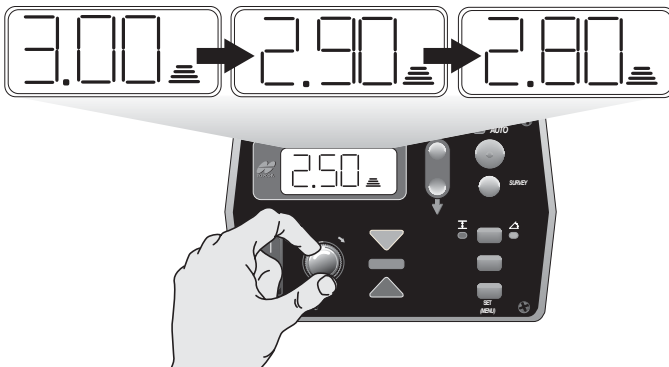

Figure 5-11. Slowly Adjusting Grade
4. With the paver moving and in auto, slowly dial the display from 3 inches down to 2.5 inches (Figure 5-11).